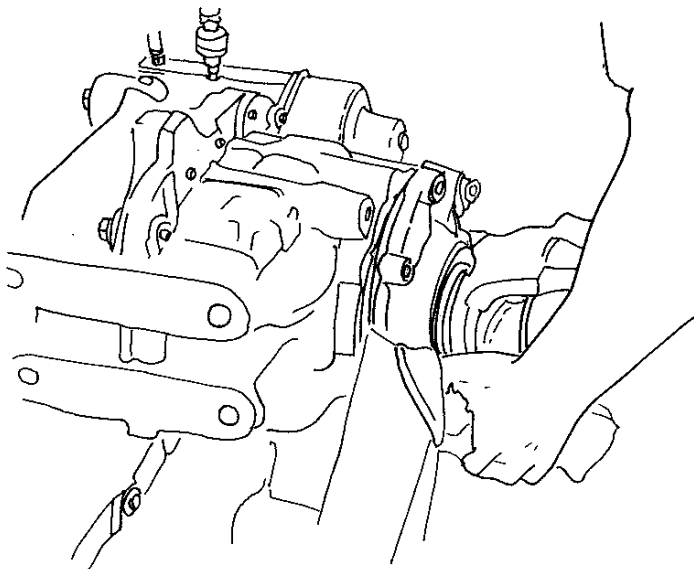

Figure 7 Remove Input Shaft and Yoke Assembly
9. Remove the input shaft with yoke, input bearing cage, and oil pump as an assembly (Figure 7).